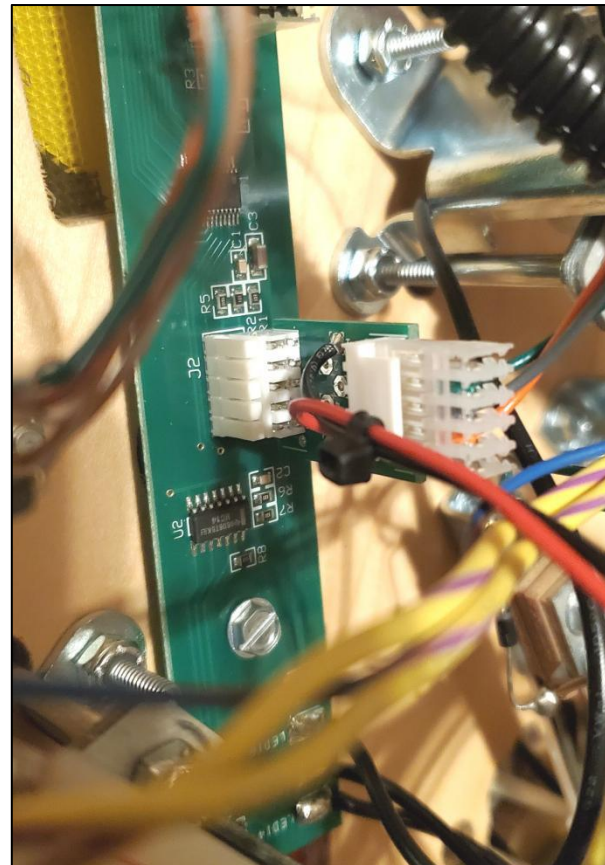

Figure 2
Step 3: Install the supplied LE model PCB power tap and six-pin wire tap motor direction sense combination wiring harness as shown in **Figures 2 and 3**. The six-pin wire tap is connected between the factory disc direction relay assembly connector located at the lower left under the playfield. The LE model location is shown in **Figure 2**. The LE model PCB power tap is attached at the 520-5315-02 LED lamp board (closest to the pop bumpers) and is